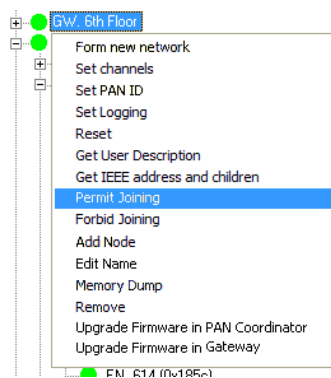

Figure 24
1. To be able to join the thermostat to the gateway or router, it is first necessary to permit joining on the gateway or router. This is done in the SystemMonitor, *SysMon*; to open this, double click on **SysMon.exe** in the software installation folder and log on at **File/Log on**. In SysMon, choose **View/ZigBee** to see the ZigBee network. Right click on the designated gateway/router in the **ZigBee Network** dialog and select **Permit Joining** in the right-click menu; see Figure 24.